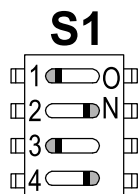

Figure 16.1 DIP Switch S1 Settings for the Self RAM Check
1. Set DIP switch S1 as shown in Figure 16.1.